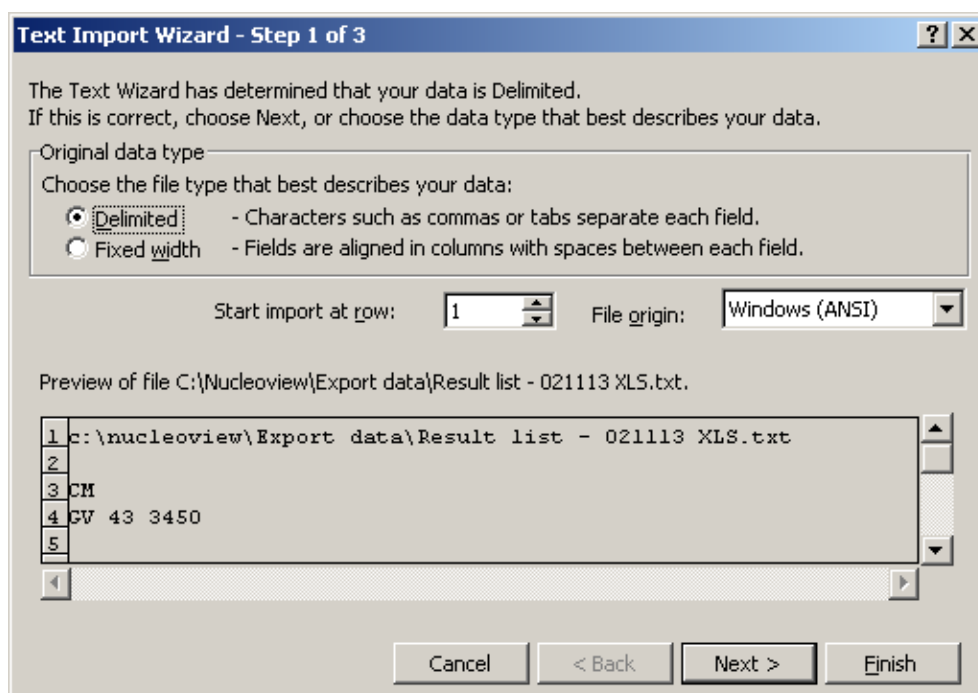

Figure 32 Import to Excel step 1.
2. Locate the file to import in the directory: "C:\Nucleoview\Export data" and open it (doubleclick it or highlight it and click the "Open" button). If you cannot find the file in the directory ensure that you have selected "Text Files" in the "Files of type" field at the bottom of the dialogue. Once the txt-file has been opened the Text Import Wizard appears, see figure 32.